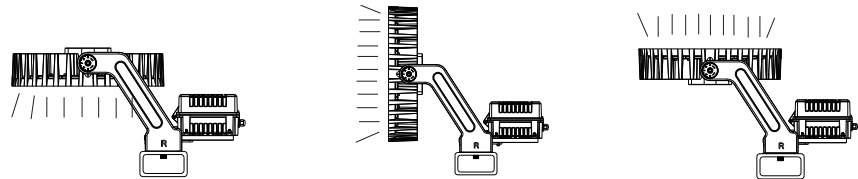

Figure 6
- 5. According to the need, adjust the projection angle, angle adjustment range (Figure 6);